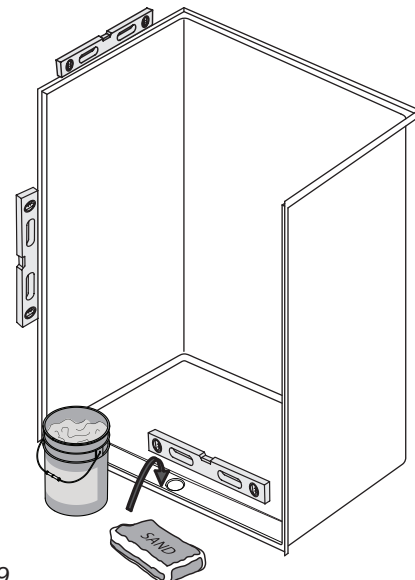

Figure 9
- 14 Tip shower up into position; **do not drag or slide it**. Make sure front aligns with line drawn in Step 3. Avoid stepping in shower until adhesive has cured. Check sides and front with a level. (Figure 9)
- 15 Place a weight (a bucket of water or sand) over the drain area to ensure the epoxy will be effective. (Figure 9)